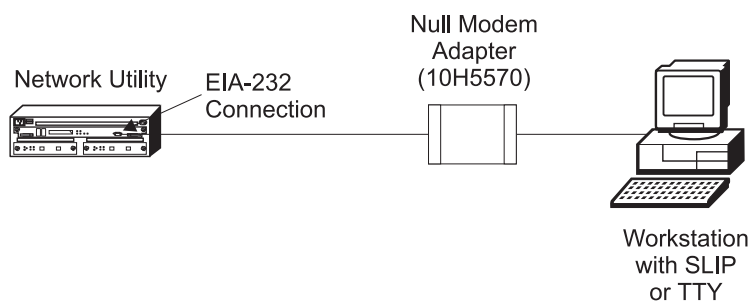
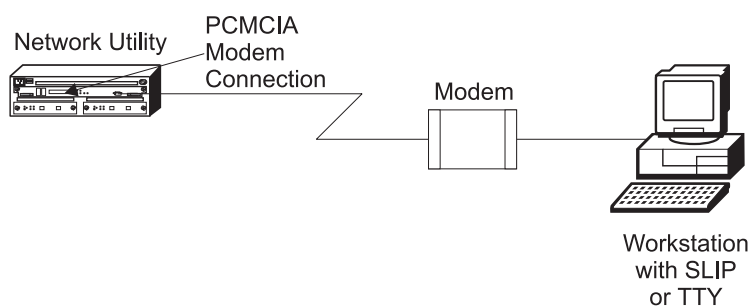

Figure 2-1. Local Workstation Serial Connection to the EIA 232 Port
Figure 2-2. Remote Serial Connection to the PCMCIA Modem
- Local connection through a null-modem cable attached to the EIA 232 service port (see Figure 2-1 on page 2-2). This type of connection uses the null-modem adapter and the two 9-to-25 pin serial cables that are supplied with this product.
- Remote dial-in (using telephone lines) through the PCMCIA modem (see Figure 2-2 on page 2-2).
- **If you are a new user and are physically adjacent to the Network Utility,** attach a workstation directly to the unit (see Figure 2-1 on page 2-2) using ASCII terminal emulation for your terminal console (see “ASCII Terminal Setup and Usage”). The key advantages of this method are:
Attach an ASCII terminal or emulator (with the appropriate emulation software) to provide local or remote access as shown in Figure 2-2 on page 2-2 and Figure 2-1 on page 2-2. DEC VT100 and DEC VT220 ASCII terminals are supported, as well as devices such as personal computer systems that are configured to emulate them.